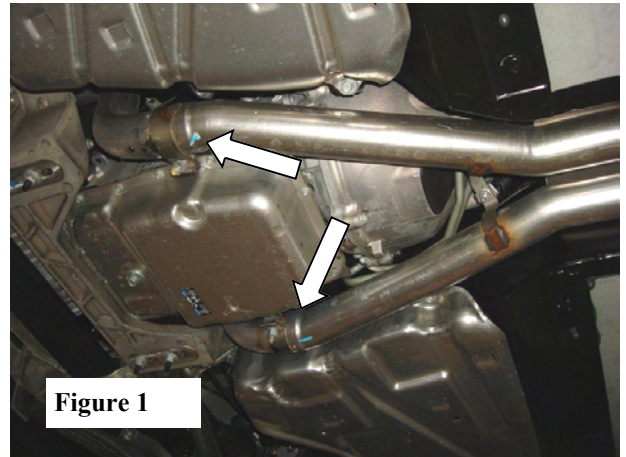

Figure 1
1. Loosen the clamps on the pipe in front of the rear axle. Remove the hardware on the hangars connecting the pipe to the vehicle. Keep this hardware for installation of your new exhaust system. (See Fig. 1)